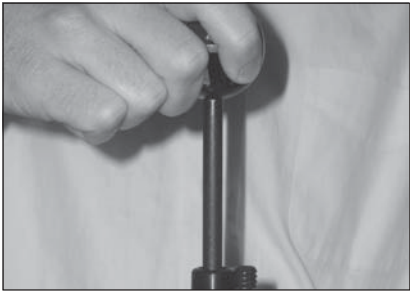

Figure 5
8. Use longer end of ball starter to move projectile about six inches down the bore. (See Figure 5).